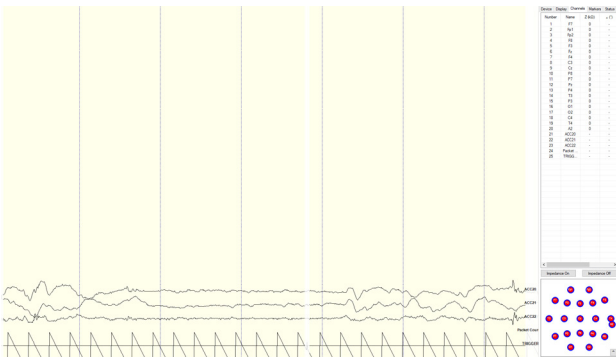

fig. 2
- No traces appear and impedance values are zero. (fig. 2)